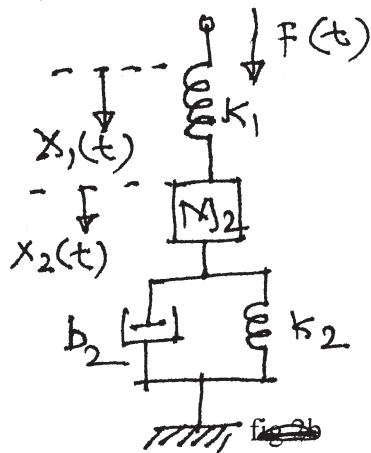

fig 2b
- b) Write the equilibrium equations for the mechanical system as shown in fig 2b. [6]